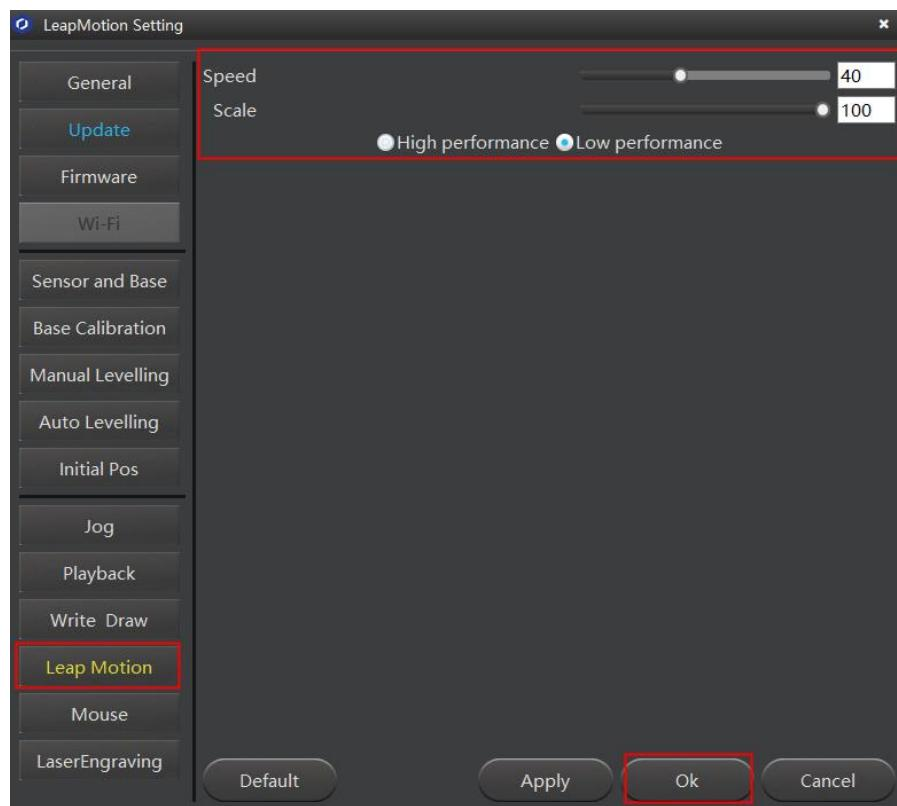

Figure 5.98 Set the parameters of the Leap Motion function
**Step 4** Click **Leap Motion**, as shown in Figure 5.98. Set the parameters, as shown in Table 5.12, and click **OK**.